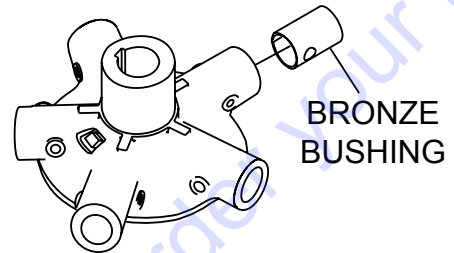

**Figure 38. Remove Roll Pin and Zerk Fitting**
2. Each trowel arm is held in place at the spider plate by a hex head bolt (zerk grease fitting) and a roll pin. Remove both the hex head bolt and the roll pin (Figure 38) from the spider plate.
Trowel arms can be damaged by rough handling, (such as dropping the trowel on the pad), or by striking exposed plumbing, forms, or rebar while in operation. A bent trowel arm will not allow the trowel to operate in a smooth fluid rotation. If bent trowel arms are suspect, check for flatness as follows, refer to Figures 38 and 39: